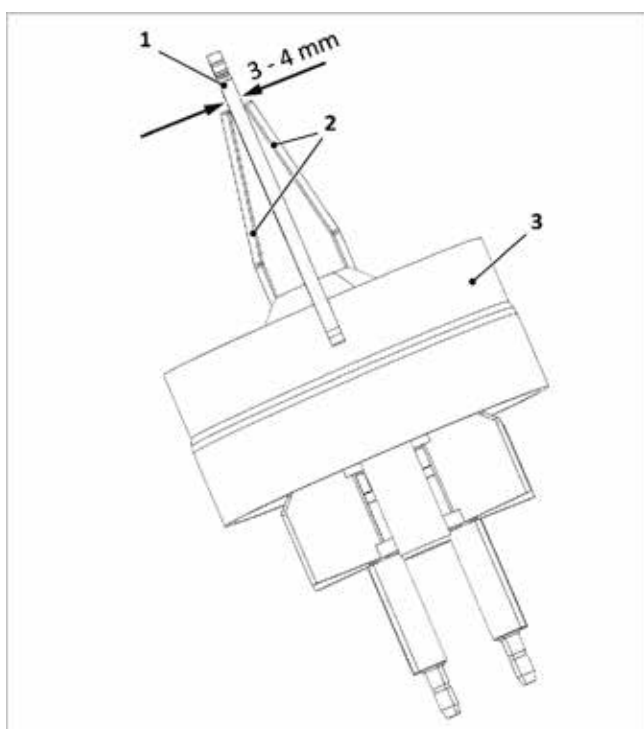

Fig. 150: Checking the ignition electrode gaps
3. Check the electrode gaps as shown in → fig. 150 and correct by carefully bending them, if necessary.